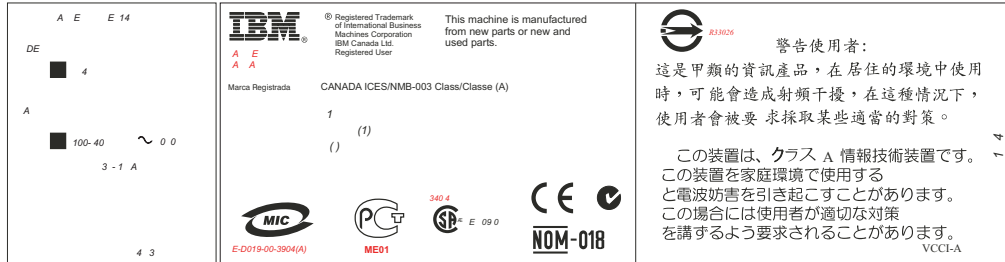

Figure 3. Agency/ratings label for the SAN Volume Controller
1. Agency/ratings label. See Figure 3 on page xxiv.